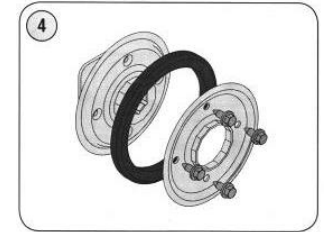

Figure 27
- 1) Remove the four screws which secure the friction wheel's side plates together. See Figure 27.